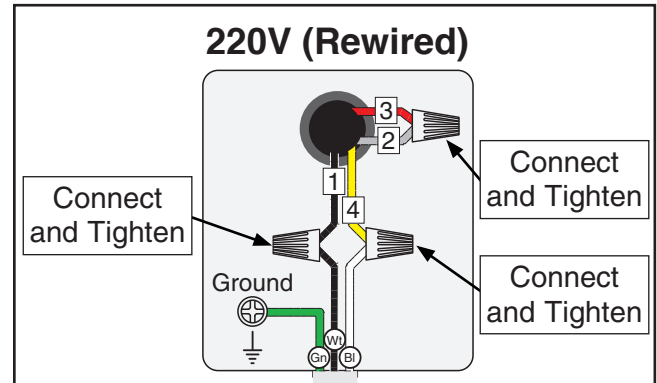

Figure 2. Motor wires repositioned for 220V.
4. Connect the main motor wires, as shown in **Figure 2**, with wire nuts. Once snug, wrap electrical tape around each wire nut and the connected wires, to reduce the likelihood of the wire nut vibrating loose during motor operation.